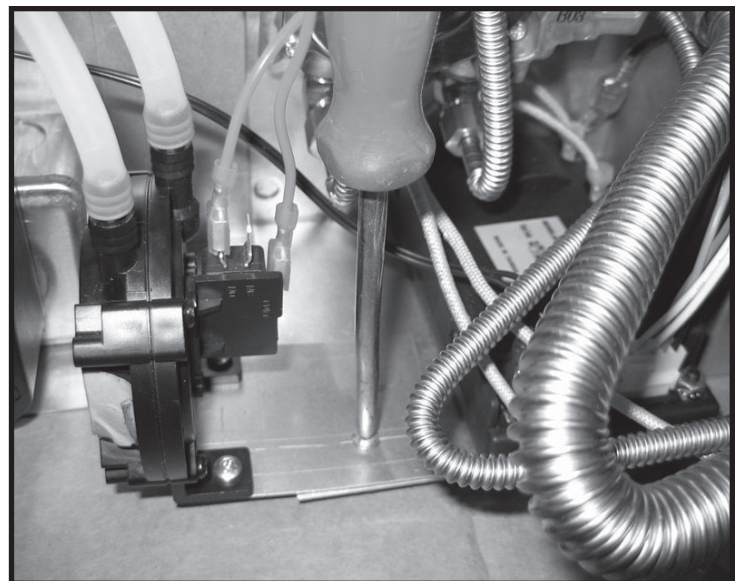

Figure 11: Securing pressure switch.
7. Secure the pressure switch in the control box using the screw provided (Figure 11).